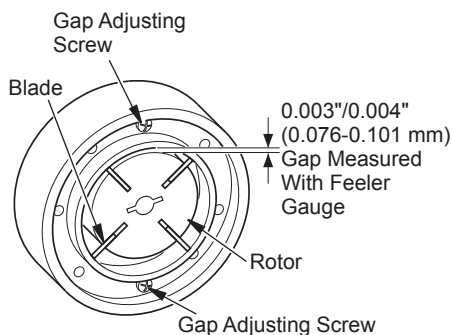

Figure 22 - Gap Adjusting Screw Locations
6. Remove rotor, insert, and blades (see Figure 22).
9. Check gap on rotor. Adjust to 0.076/0.101 mm (0.003"/0.004") if needed (see Figure 22).